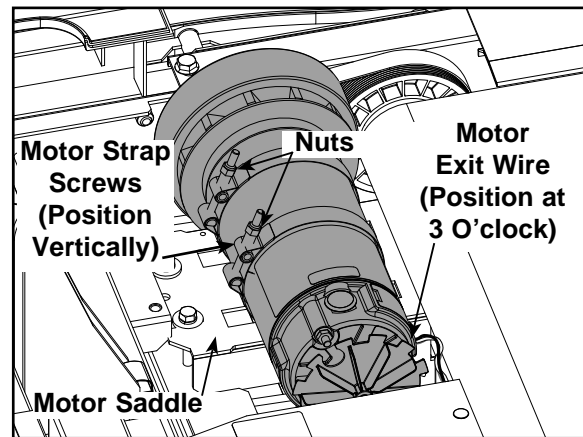

Figure 16
- B. Turn the motor so the exit cable is positioned at a 3 o'clock angle toward the front roller. See Figure 16.
- A. Loop each strap through the motor saddle and position each screw vertically as shown in Figure 16. **NOTE:** *The motor strap will be creased slightly where it pressed against the motor saddle, be sure the strap is in its original position.*
- B. Close each motor strap and use a 7/16" wrench with a deep socket to tighten each nut securely (80 in-lbs). See Figure 16.